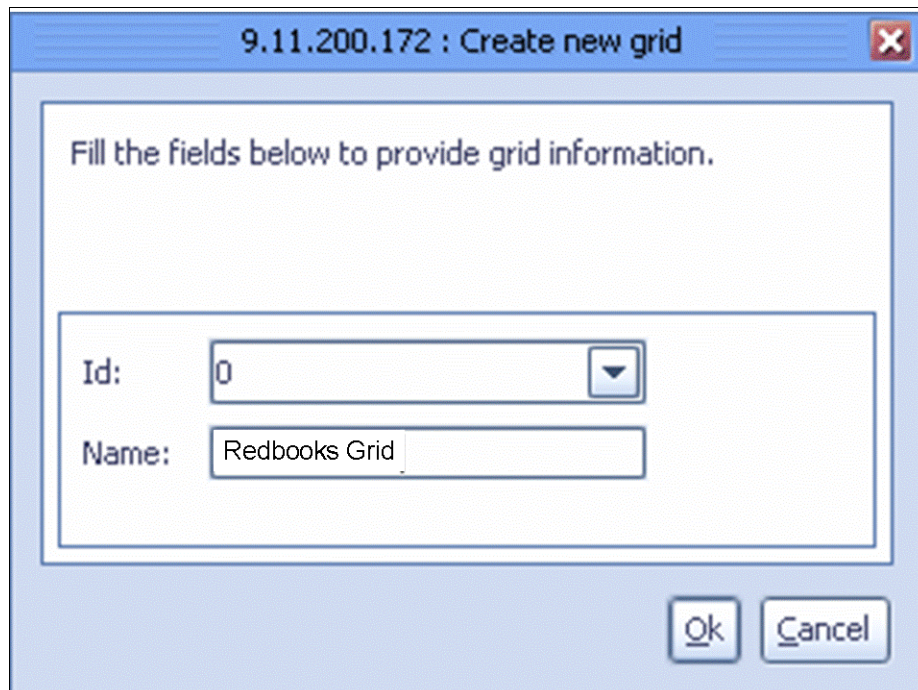

Figure 5-99 ProtecTIER Replication Manager naming window
6. On the next window, you must provide a name for your grid that you are setting. We call our grid Redbooks Grid (Figure 5-99).